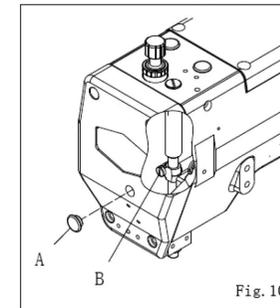

Fig. 10
2. 若需要调整时, 请先打开机头前盖之止油胶盖(A), 放松针棒连杆上的螺丝(B), 上下调整针棒的高度后再固定之。(图10)
2. If you would like to adjust the height of Needle Bar, please remove the rubber plug of front cover and loose the screw (B) on Needle Bar Rod (A). Adjust the Needle Bar up or down to require height and fix the screw. (Fig.10)